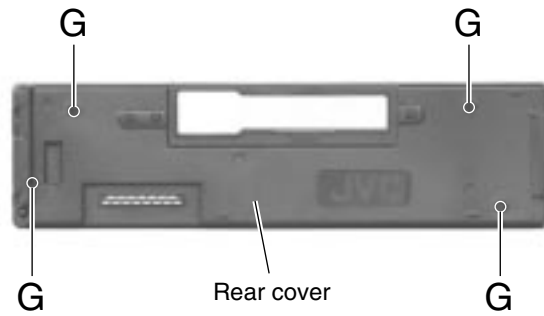

Fig.10
(See Fig.10 to 12)
1. Raise the part k of the reel base assembly slightly and remove the selector link (B) on the front side of the cassette mechanism assembly by turning it as shown in Fig.10.